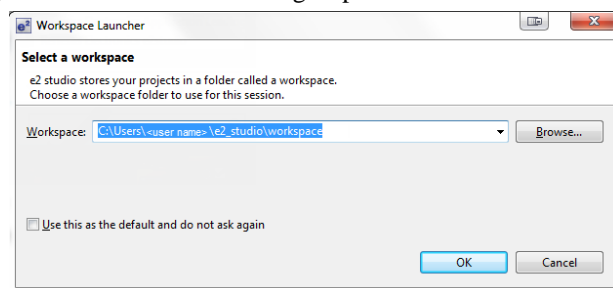

Figure 2.2 Workspace Launcher dialog
- A. At the end of e² studio startup, you see the Workspace Launcher Dialog box as shown in Figure 2.2. (If you did not see this dialog box, you might have turned off it off. If that is the case, open your desired project and skip to step D.) Otherwise, continue with the following steps.